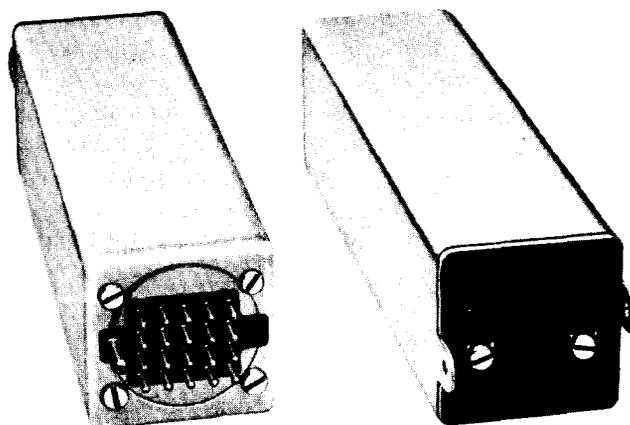

Fig. 1—359N Equalizer
2.01 The 359N equalizer (see Fig. 1) is a plug-in unit equipped with a 20-pin connector plug and is designed to be plugged directly into the equalizer connector socket of the repeater mounting shelf.